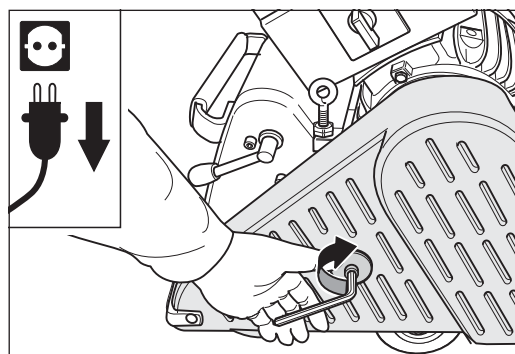

Fig. 5 Close the belt guard.
- 5 **Close the belt guard (fig. 5)!**